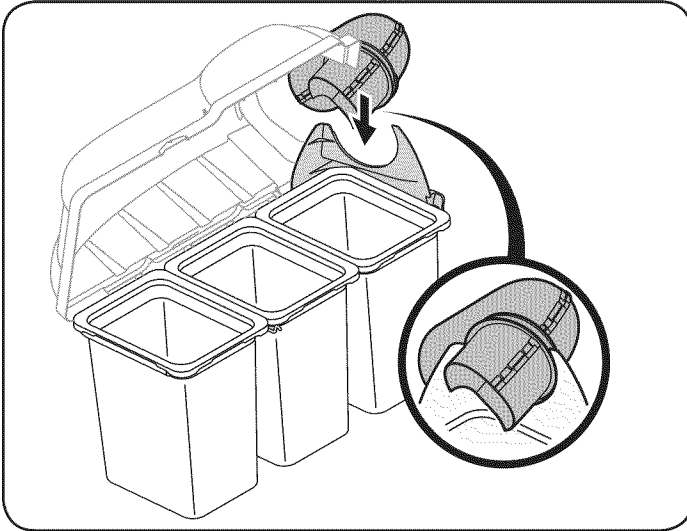

Figure 46
7. With the bagger cover open, insert the upper chute tube into the discharge chute then pivot the upper chute tube into position so that the chute rests in the upper chute support. See Figure 46.